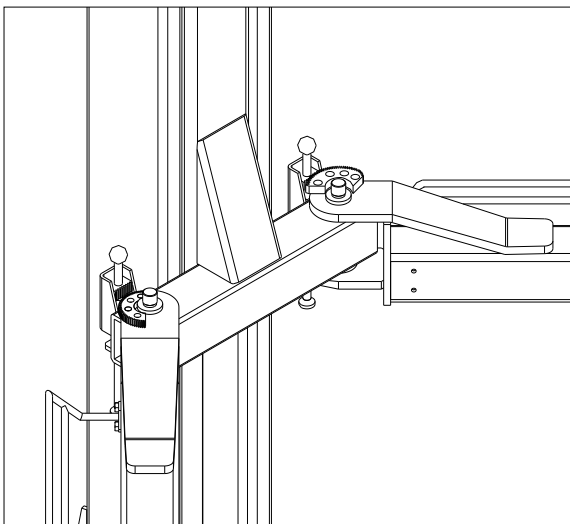

Fig. 40
- ◆ Press the up push button, raise the carriages to a height of about 70cm off the ground, then press the lock push button, **SET THE MAIN SWITCH (IG) TO POSITION 0 AND CUT OFF THE POWER SUPPLY TO THE LIFT.**
- ◆ Mount the arms into the carriage supports and insert the dowel pins into the support holes as shown in **Fig. 40**. Notice the entry of both arms is the same with the entry of the vehicle.